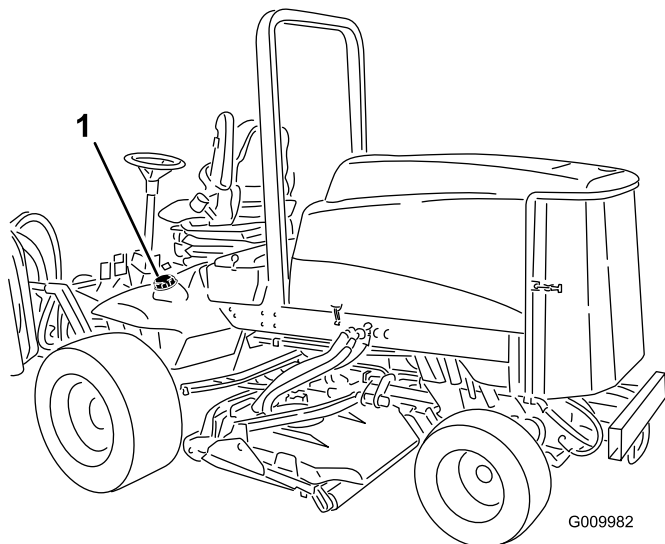

Figure 22
1. Remove the fuel-tank cap (Figure 22).